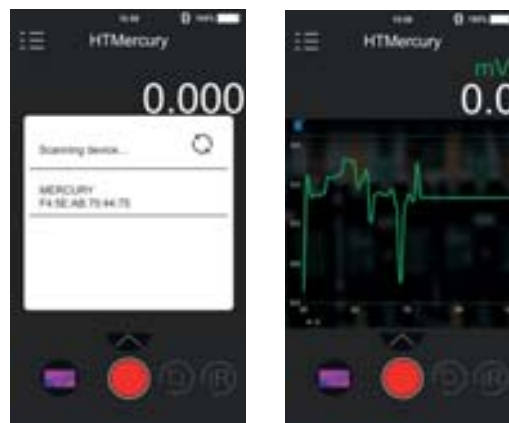

Fig. 48: Communication with the APP HTMercury
4. Search for the instrument in the APP (see Fig. 48 – left side).
5. The instrument's input signal is displayed in real time on the mobile device (see Fig. 48 – right side) and it is possible to save screenshots and to activate/deactivate recordings from the internal menus of the APP. it is also possible to save screenshots of thermographic images and insert objects for advanced analyses (see Fig. 49). See the Help on line of APP for details.